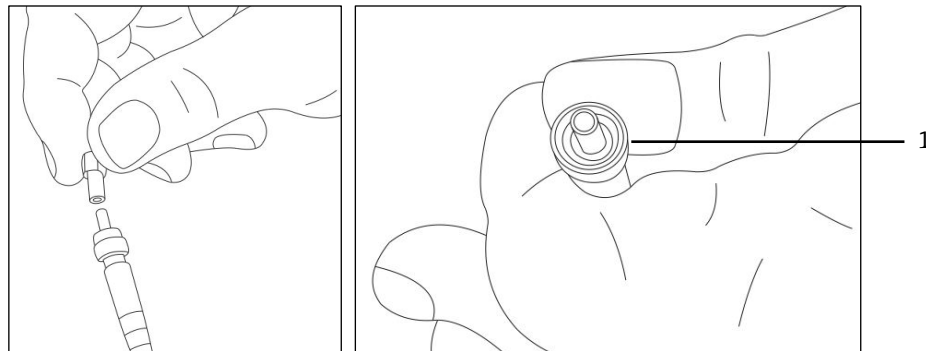

Figure 91. Preparing the new oxygen probe with the fiber optic tip (1)
1. Carefully remove the protective plunger from the end of the probe (analyzer side), taking care not to touch the optical fiber tip. Refer to Figure 91.
3. Insert the probe tip into the SMA connector and tighten the connector nut. Refer to Figure 91.